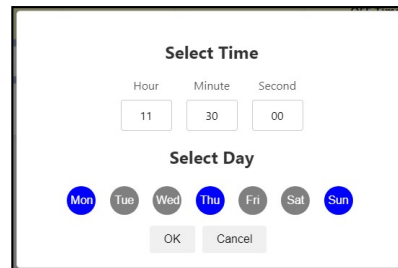

Figure 72: Time and Day Selection for Configuring condition
4. **Select Time:** This parameter allows the user to specify the time required for configuring a Timer condition. Clicking on "Click to Select Time" will open a pop-up window where user will be prompted to enter the time (i.e., hour, minute, second) in 24-hour format. Additionally, user can select the days of the week by clicking on it. The selected days will be shown in blue, while unselected days will be shown in grey, as shown in Fig 72. After configuring the time and day, click the OK button to save the selected parameters.